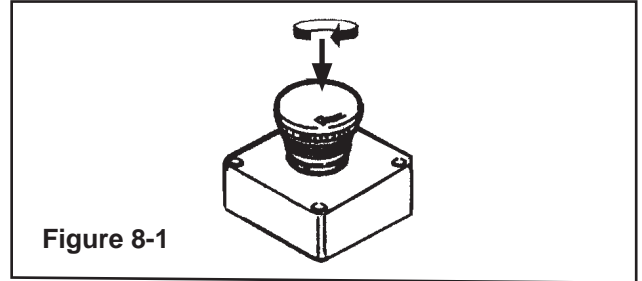

Figure 8-1
- Release the latching emergency stop button by turning it clockwise (Figure 8-1).
- The EMERGENCY STOP BUTTON unlocked (Figure 8-1)